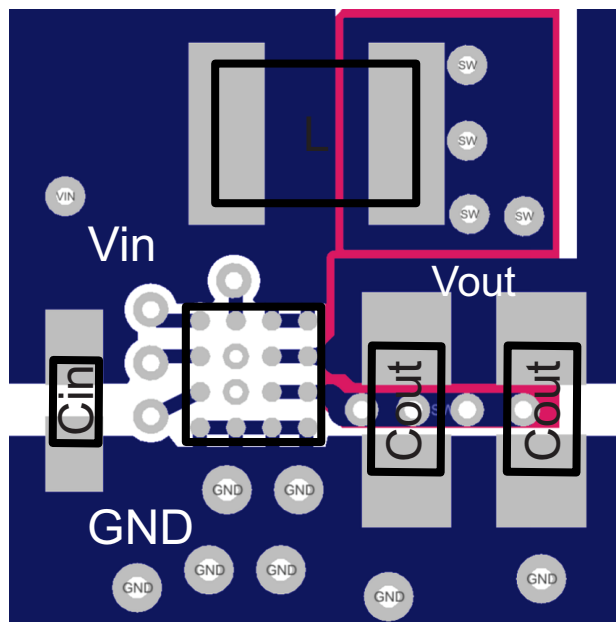

Figure 71. Suggested Layout (Top)
- Place the output capacitor(s) as close as possible to GND and V_{OUT} , as shown in Figure 71.